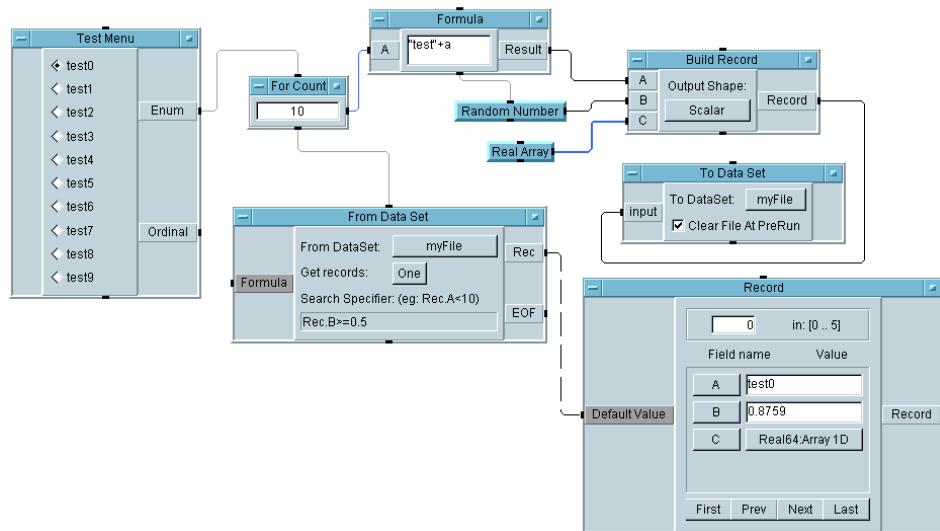

Figure 5-17. Adding the Test Menu object
5. The program should only execute when a menu selection is made, so connect the Test Menu data output pin Enum to the For Count sequence input pin. The program should look like Figure 5-17.